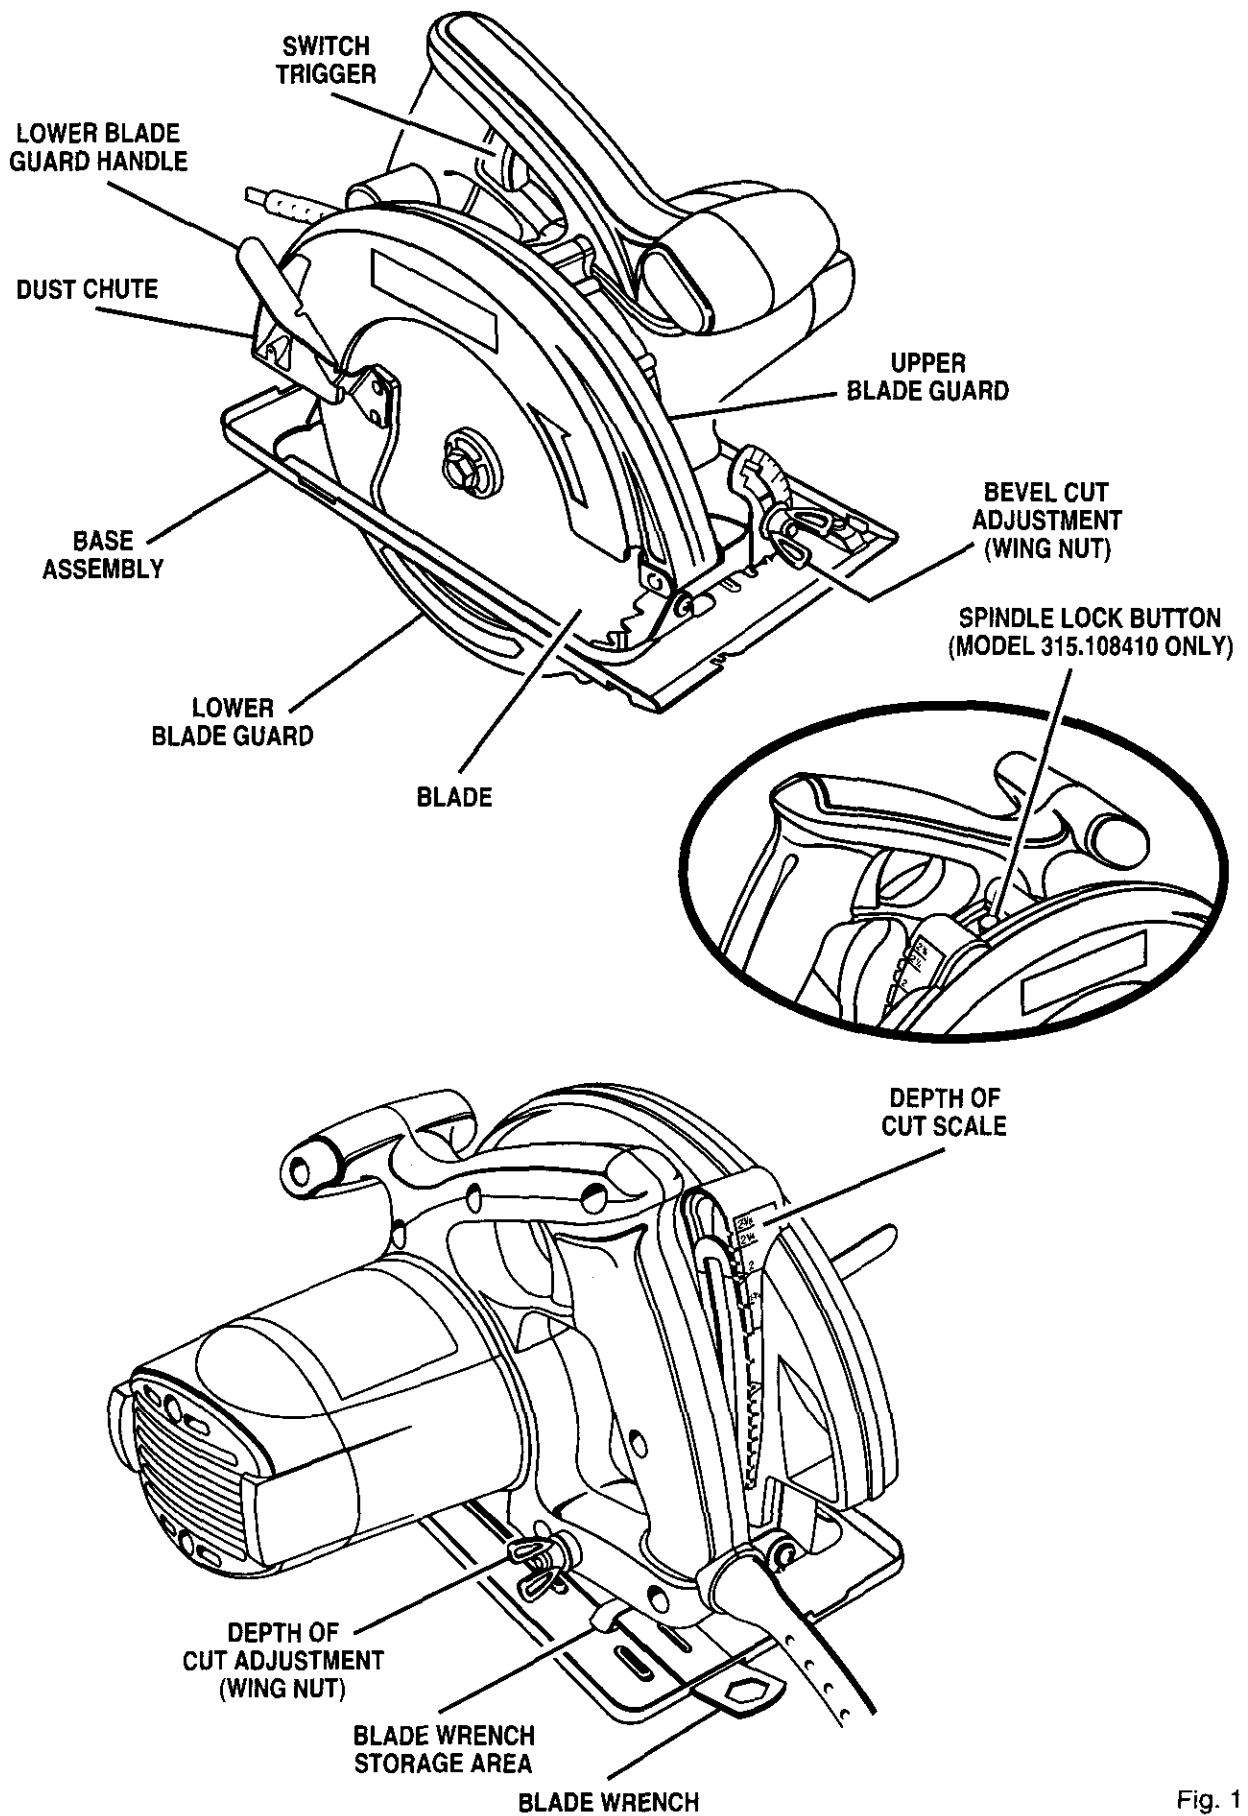

Fig. 1
See Figure 1.
■ Return blade wrench to storage area. **Note:** Always place angled portion of blade wrench up as shown in Figure 1.
- Remove blade wrench from storage area. See Figure 1.
- Return blade wrench to storage area. **Note:** Always place angled portion of blade wrench up as shown in Figure 1.